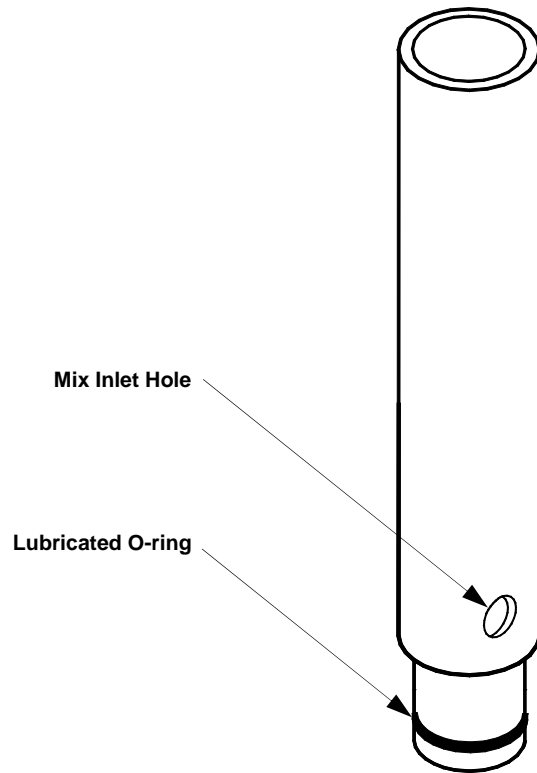

Fig. 12
6. Install the o-ring onto the Carburetor Tube (Fig. 12). Apply lubricant sparingly over the o-ring and place the assembly in the bottom of the mix pan for sanitizing.